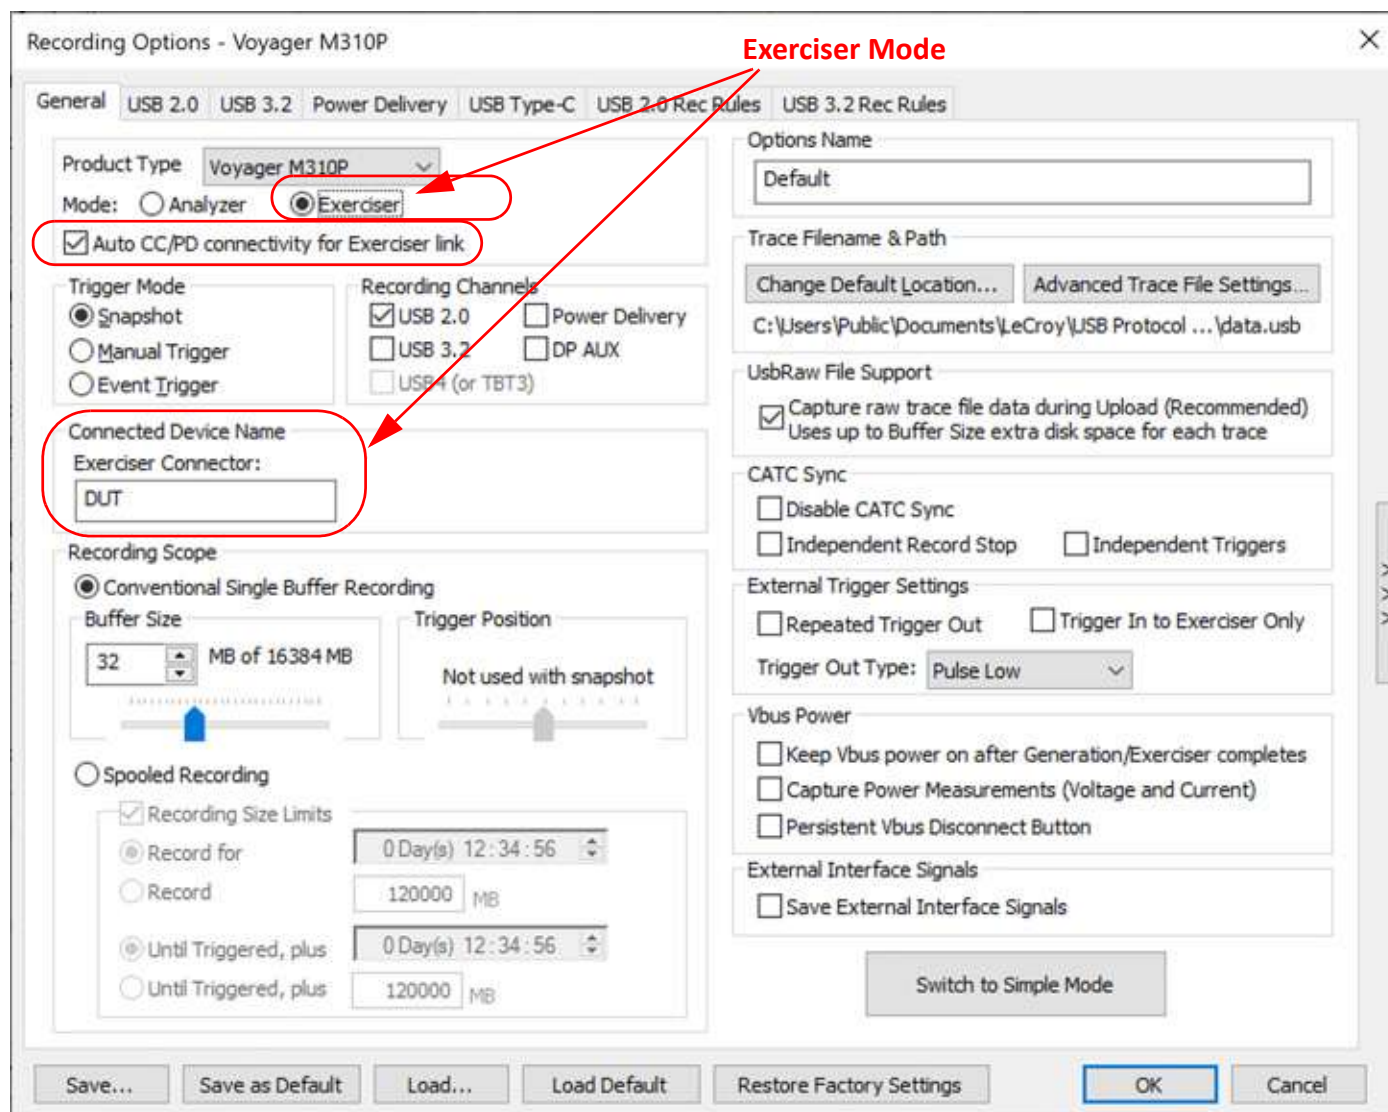

Figure 5.28: Voyager M310P: Advanced Mode Recording Options (Exerciser)
In Advanced Mode (Exerciser) the Voyager M310P has options for USB2.0, USB3.2, Power Delivery, USB Type-C, USB 2.0 Rec Rules: CH0 and USB3.2 (SS) Rec Rules. It also has an option for Auto CC/PD connectivity for Exerciser Link and a single connection to the DUT. See Figure 5.28.